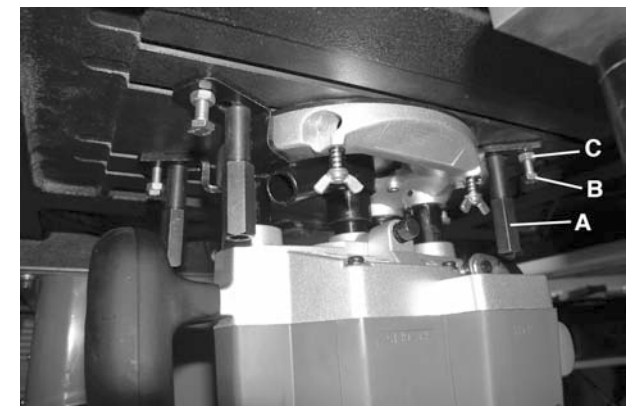

FIGURE 12
- 3) Slide the four clamping bracket assemblies over the base of the router and tighten the clamping bracket knobs (A) and the adjustment bolts (B) Fig.12. A fifth clamping bracket assembly is supplied in case you require a fifth point to secure router.
- 4) Once the adjustment bolts are tightened, tighten the hex. nuts (C) up against the clamping brackets.